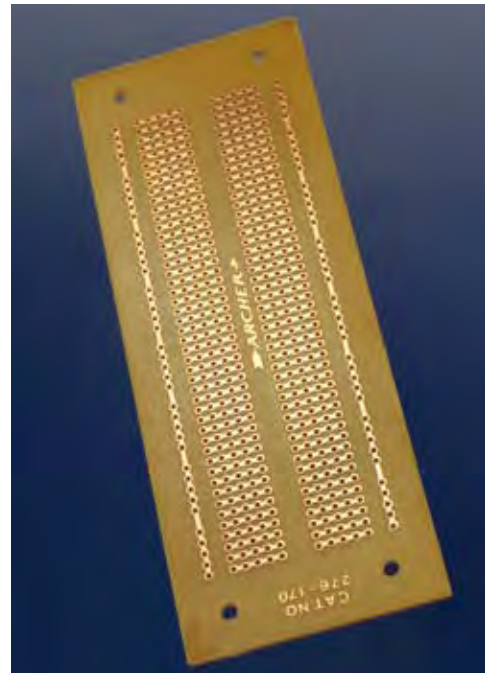

Figure 3-72. Perforated board etched with copper in variants of a breadboard layout. This example is appropriate for Experiment 15.
2. Breadboard-style wiring. Use perforated board that is printed with copper traces in exactly the same pattern as the conductors inside a breadboard. Once your circuit works on the breadboard, you move the components over to the perfboard one by one, maintaining their exact same positions relative to each other. You solder the "legs" of the components to the copper traces, which complete the circuit. Then you trim off the surplus wire. The advantage of this procedure is that it's quick, requires very little planning, and minimizes the possibility for errors. The disadvantage is that it tends to waste space. A cheap example is shown in Figure 3-72.